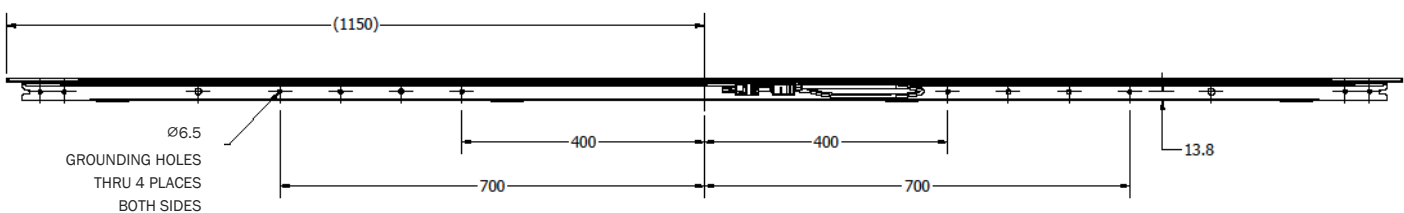

Figure 13: Grounding hole size and locations
- Figure 13 below indicates locations of grounding holes for S7 FT1.